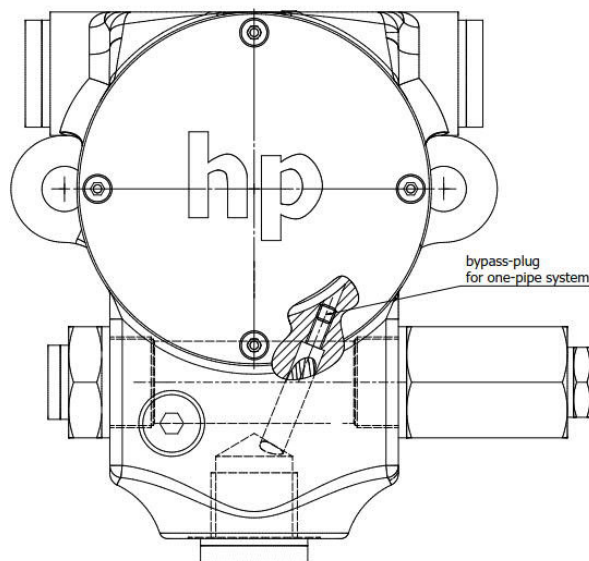

Fig. 4. Bypass plug for switching from two to one-pipe-system
- The pump has a bypass plug ex works and is thus defined for two-pipe-system (Fig. 4). A return flow connection to the tank is required for two-pipe-system.